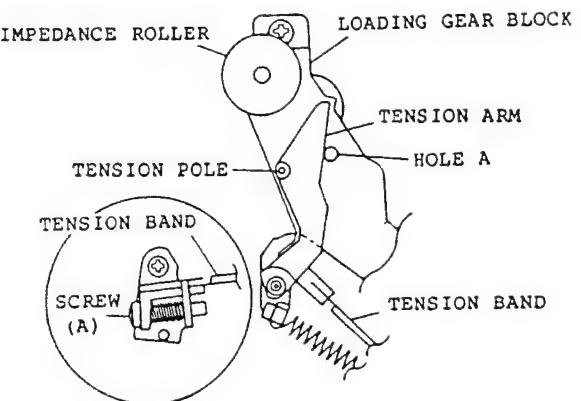

Fig. 3-8
5-1. TENSION POLE POSITION ADJUSTMENT/TENSION ADJUSTMENT (Fig. 3-8)
- 2) Adjust screw (A) so that the inner flange of the tension arm is aligned with the left edge of hole A in the loading gear block at the start of tape as shown in Fig. 3-8.